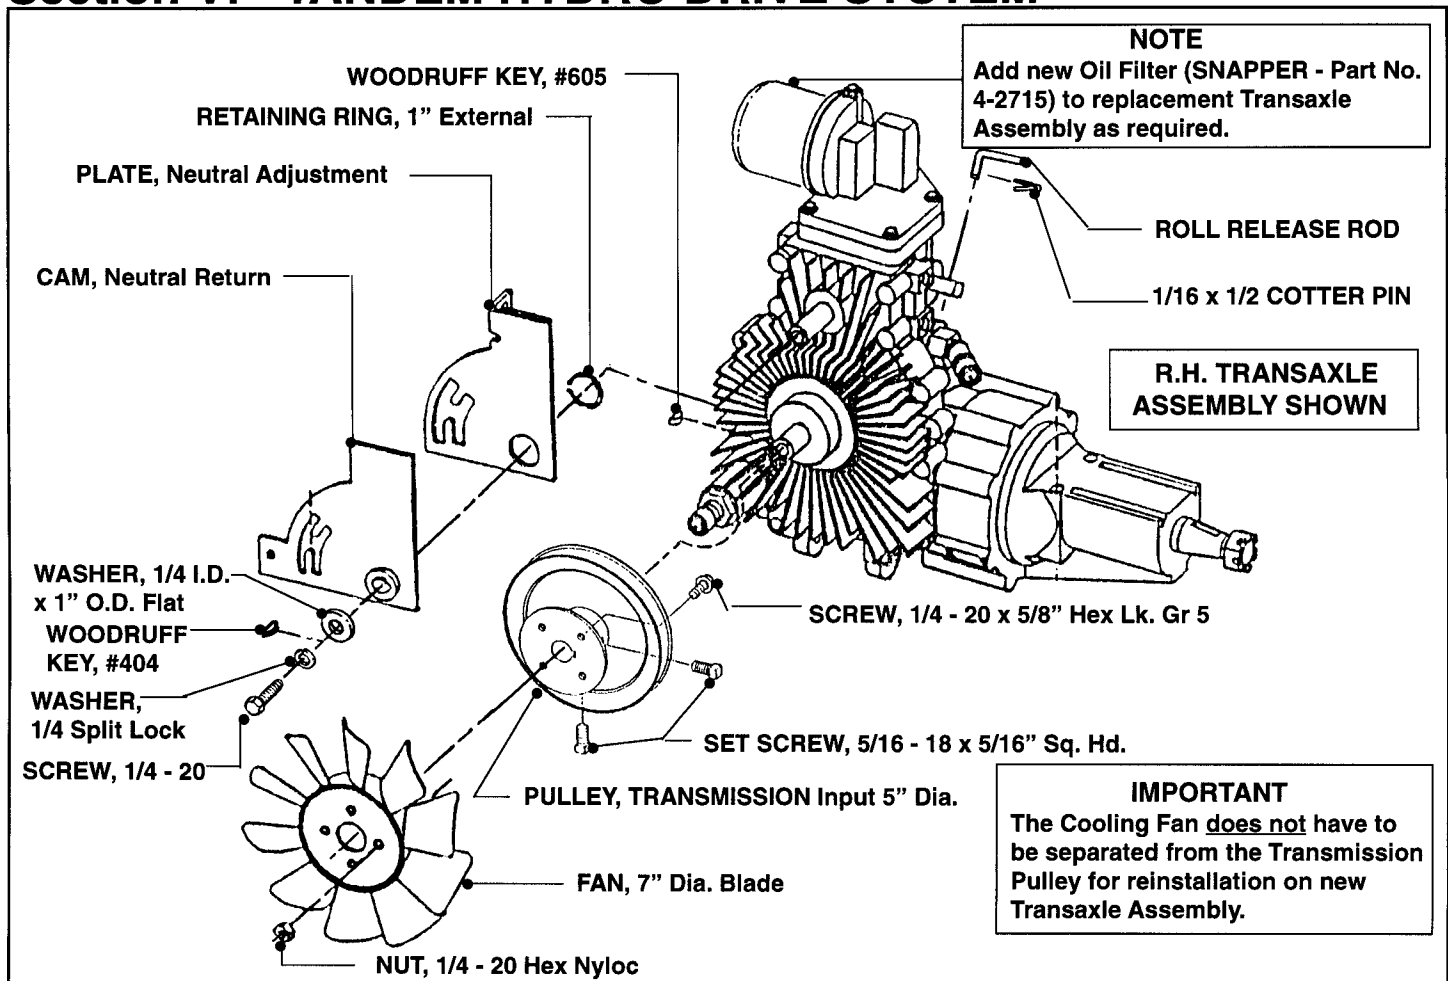

FIGURE 6.11
A. Remove the following parts from the Hydro Transaxle Assembly which is to be replaced. See Figure 6.11 on following page.
- Loosen the two (2) 5/16 - 18 x 5/16 Sq. Hd. Set Screws.